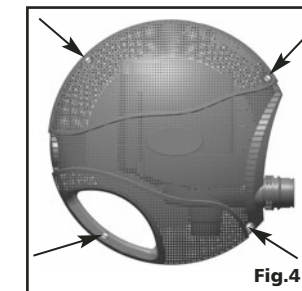
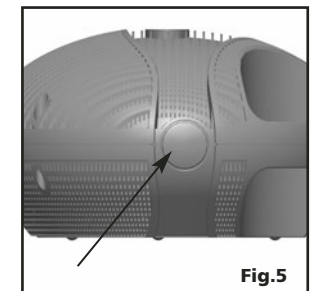

Fig. 4
Fig. 5
Opening and Closing the Pump Cage (see Fig. 4)
- 1) Open the pump cage by unlocking the pivot pin fasteners (Fig. 4)
- 2) The Pump Cage is equipped with a pre-scored section (Fig. 5) that must be cut out with a suitable cutting tool
- 3) Insert a Remote Adapter (9) in the scored opening at the back of the Pump Cage
- 4) Close the cage, ensuring that the two halves are properly aligned and coupled, and then lock them with the pivot pin fasteners (Fig. 4) on the unit
- Remove the pump cage from the pond, unlock the pivot pin fasteners (Fig. 4) and remove the upper half of the cage. Clean all components with streaming water from a garden hose. Reassemble all components with care
Take the pump out of the pond, unlock the pivot pin fasteners (Fig. 4) and remove the upper half of the cage. Free the pump from the lower half of the cage.